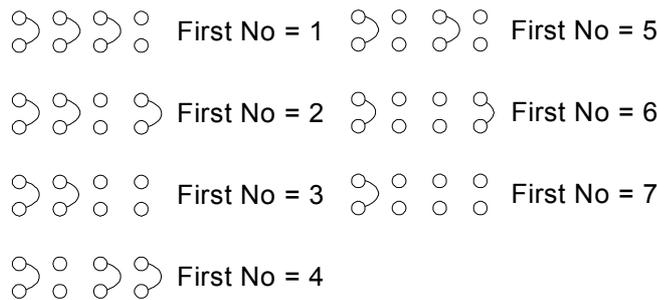

Figure 9B
If 3-digit numbers are desired (N10-N73), the first digit N is selected according to figure 9B.
- 3) The determination of the first physical connection number of each module is determined with the jumpers as shown in figure 9B. It does not matter in which order the modules are located in the cabinet when giving each its first number: The upper one can be module number 3, the next one number 7, and so on.